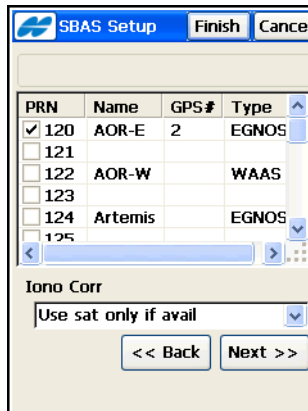

Figure 4-53. SBAS Setup
- For SBAS (Satellite-Based Augmentation Systems), select satellites of a satellite-based augmentation system (WAAS/EGNOS/MSAS) to improve accuracy of DGPS solutions (Figure 4-53 on page 4-43):